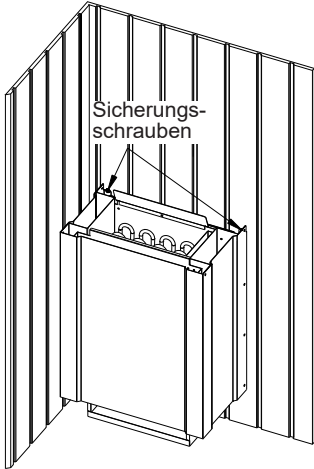
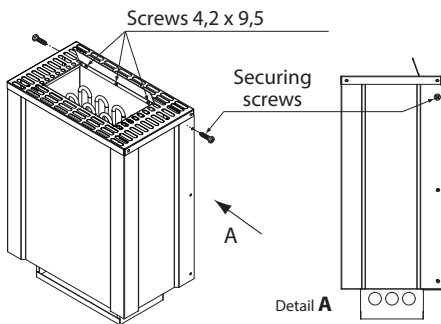

Fig. 9
Fig. 10
- Secure the heater on the sauna wall behind it using 2 screws through the holes in the rear upper edge of the heater (see fig. 9) or alternatively secure it to the side wall, as shown on fig. 10.